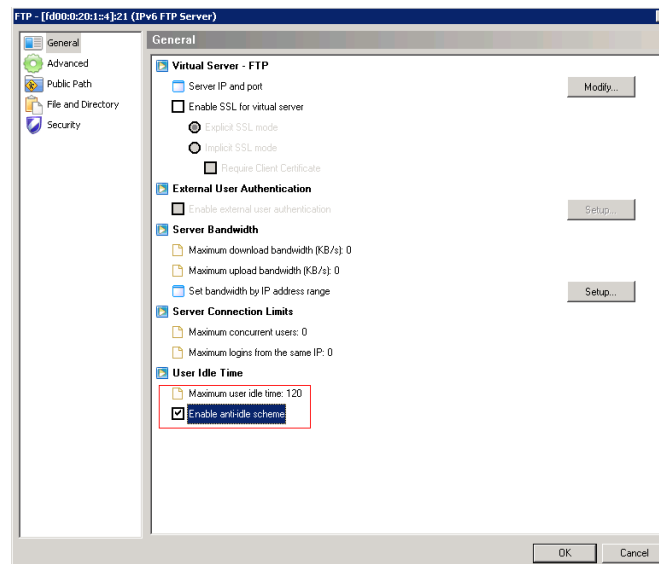

Figure 2-25: Enable Anti-idle Scheme Option
4. Under the *General* tab, change the "Maximum idle time" parameter to **120** and select the **Enable the anti-idle scheme** option, as shown in Figure 2-25.